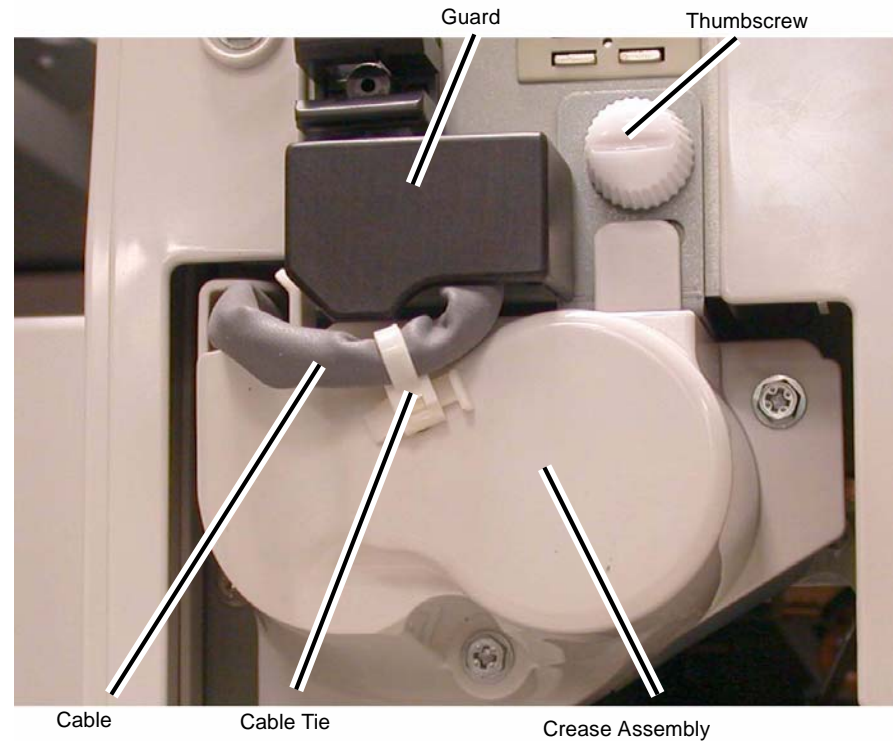

Figure 1 Removing the Crease Assembly
2. Remove the Crease Assembly (Figure 1).